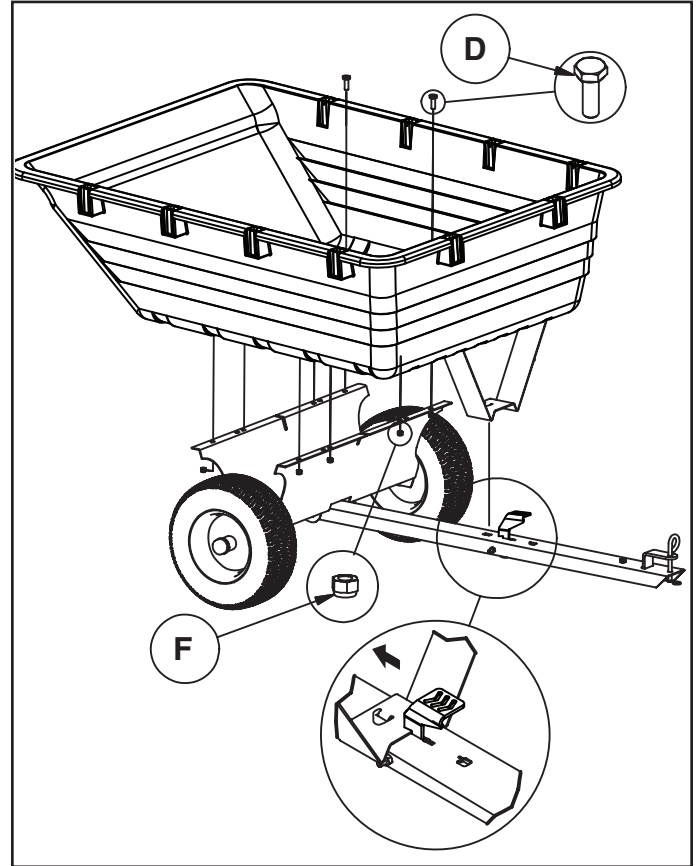

FIGURE 7
STEP 7: (SEE FIGURE 7)
- Place the tray onto the wheel support and position it so that the latch stand bracket locks into the foot pedal latch. Fasten the tray to the wheel support using eight hex bolts (D) and hex nuts (F). **Tighten.**